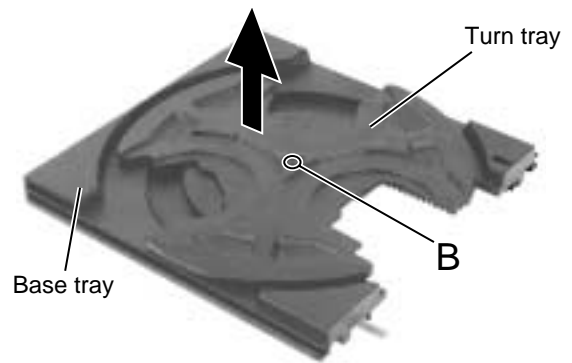

Fig.6
■ Removing the turn tray motor (See Fig.6 and 7)